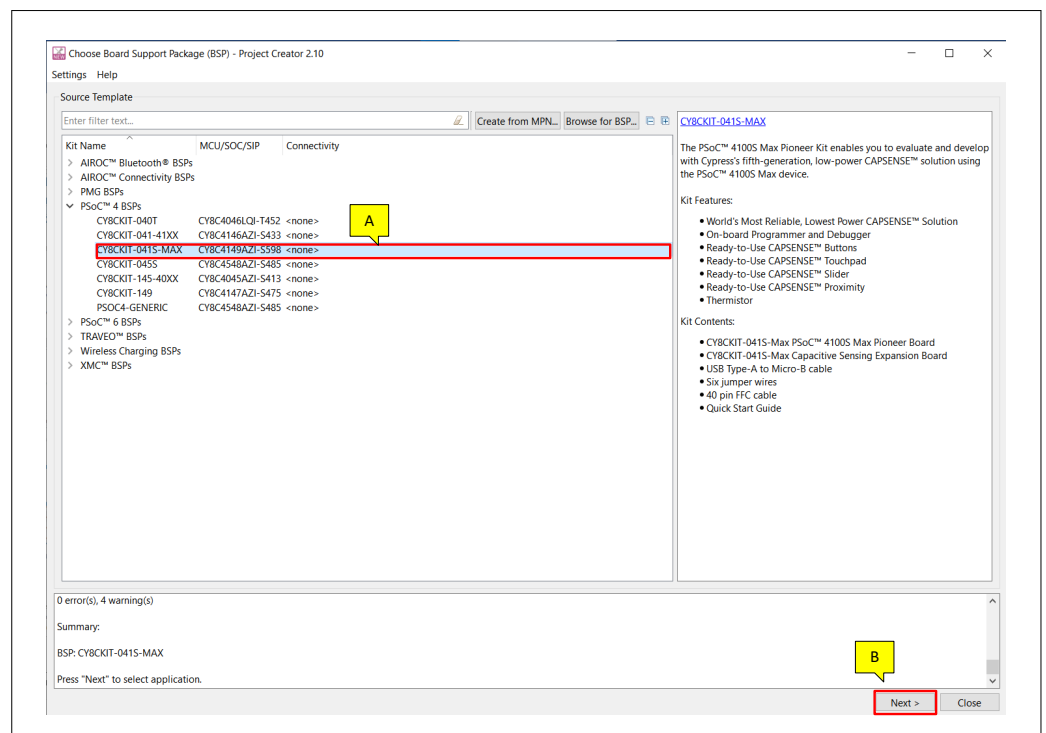

Figure 14 Choose target hardware
- In the **Choose Board Support Package (BSP)** dialog, choose the **Kit Name** that you have. The steps that follow use **CY8CKIT-041S-MAX**. See Figure 14 for help with this step